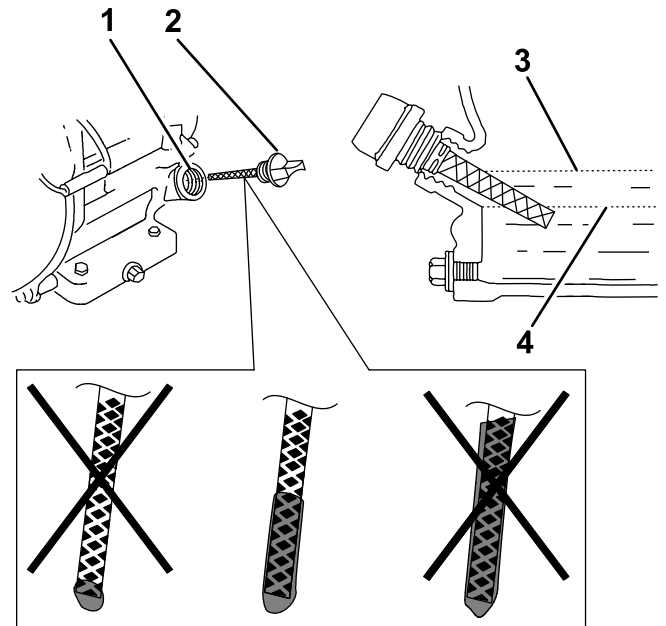

Figure 36
1. Remove the dipstick (Figure 36) and slowly pour oil into the fill hole until the oil reaches the upper-limit mark (bottom edge of the oil-fill hole) on the dipstick.